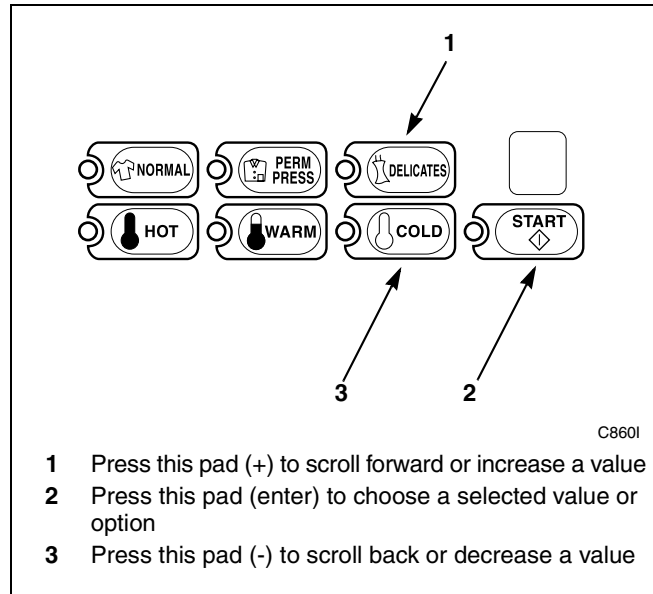

Figure 110
5. Press the DELICATES (+) or the COLD (-) keypad to increase or decrease the minutes to the correct time. Refer to *Figure 110*.